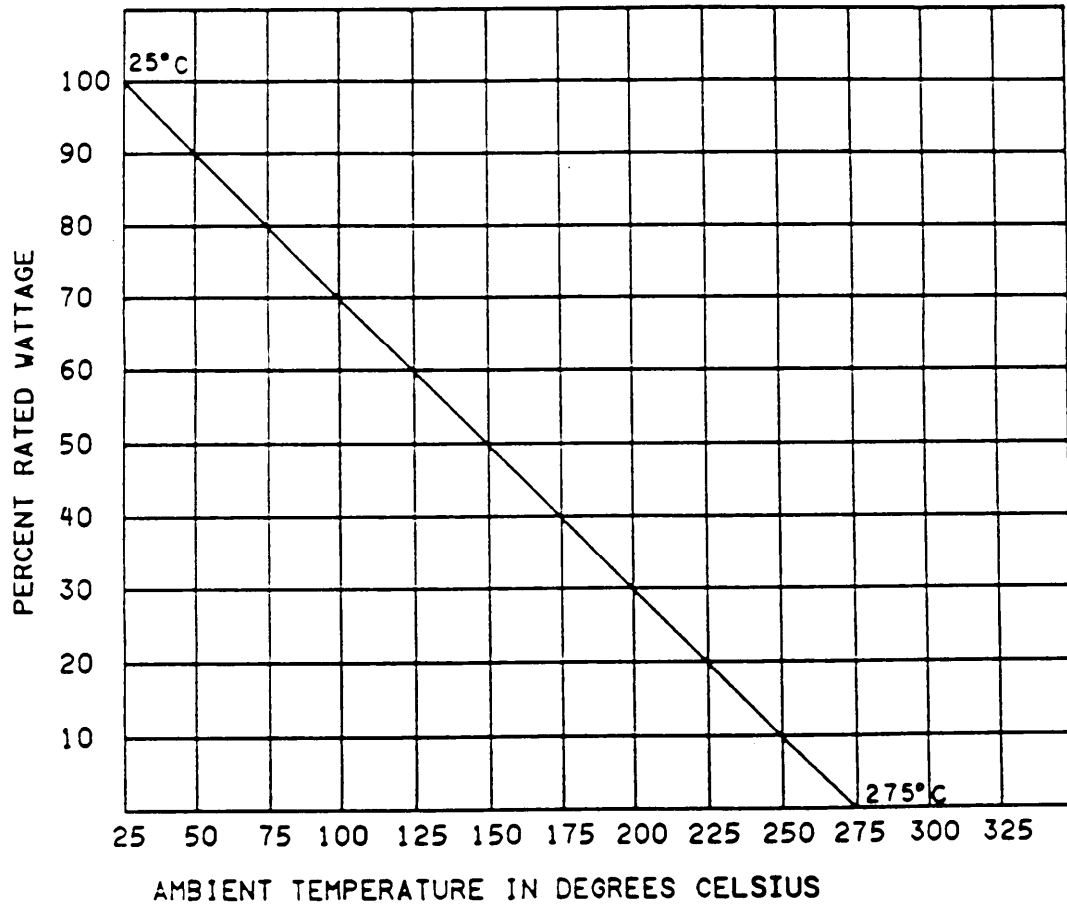

FIGURE 104-1. Derating curve for high ambient temperature.
2.1.2 Power rating. These resistors, have a power rating based on continuous full load operation at an ambient temperature of +25°C. If the resistors are to be operated at temperatures exceeding +25°C, the resistor must be derated in accordance with figure 104-1.